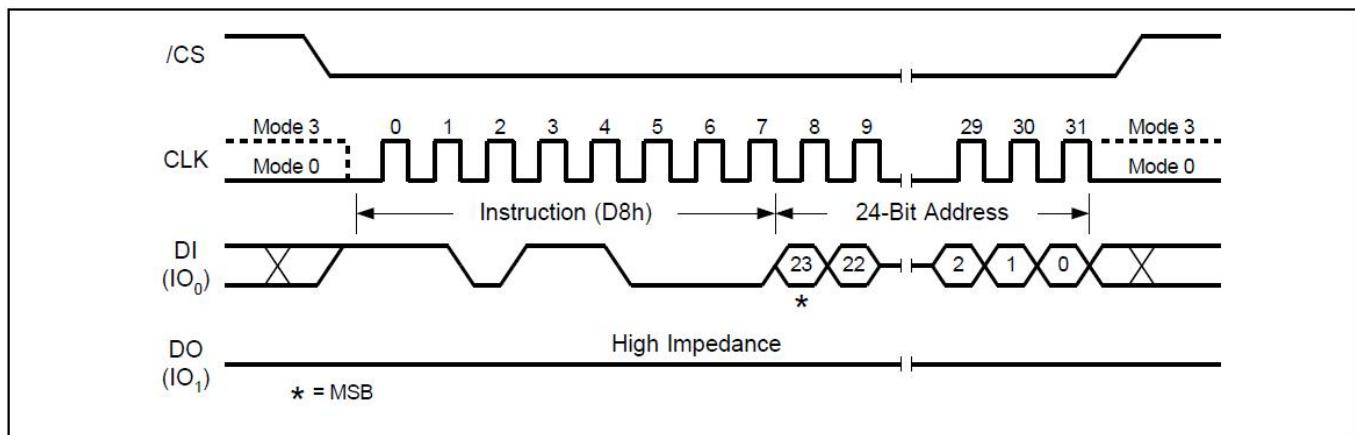

Figure 12. 64KB Block Erase Sequence Diagram
The 64KB Block Erase command sequence: CS# goes low → sending 32KB Block Erase command → 3-byte address on DI → CS# goes high. The command sequence is shown in Figure 12. CS# must be driven high after the eighth bit of the last address byte has been latched in; otherwise the 64KB Block Erase (BE) command is not executed. As soon as CS# is driven high, the self-timed Block Erase cycle (whose duration is Tse) is initiated. While the Block Erase cycle is in progress, the Status Register may be read to check the value of the Write in Progress (BUSY) bit. The Write in Progress (BUSY) bit is 1 during the self-timed Block Erase cycle, and is 0 when it is completed. At some unspecified time before the cycle is completed, the Write Enable Latch (WEL) bit is reset. A 64KB Block Erase (BE) command applied to a block which is protected by the Block Protect (BP2, BP1, and BP0) bits (see Table 1-3) is not executed.